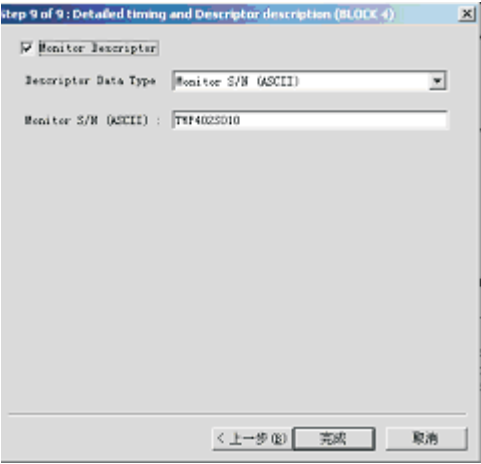

Fig.26
8. Click Next , bring up Fig. 26.